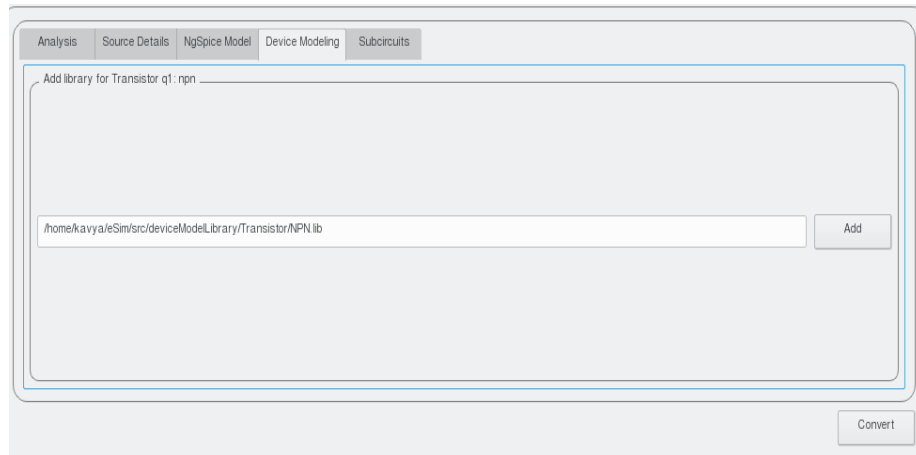

Figure 11.7: Choose the required NPN model
**Device Model:** The NPN transistor is a device whose model details must be given for simulation. Let us choose the generic NPN model available in the eSim model library. Browse it from `/opt/eSim/src/deviceModelLibrary/Transistor/NPN.lib`. See Figure 11.7.